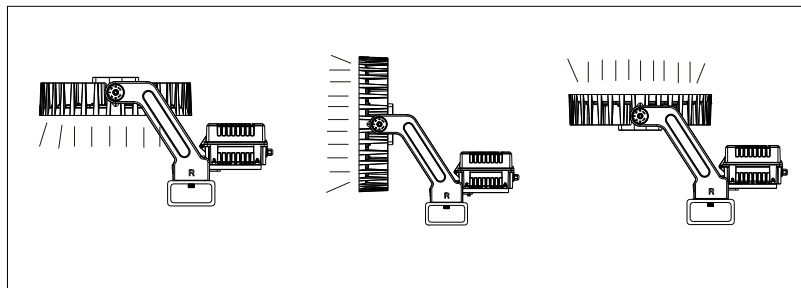

Figure 6
5. Adjust the projection angle within the specified range as needed (Figure 6).